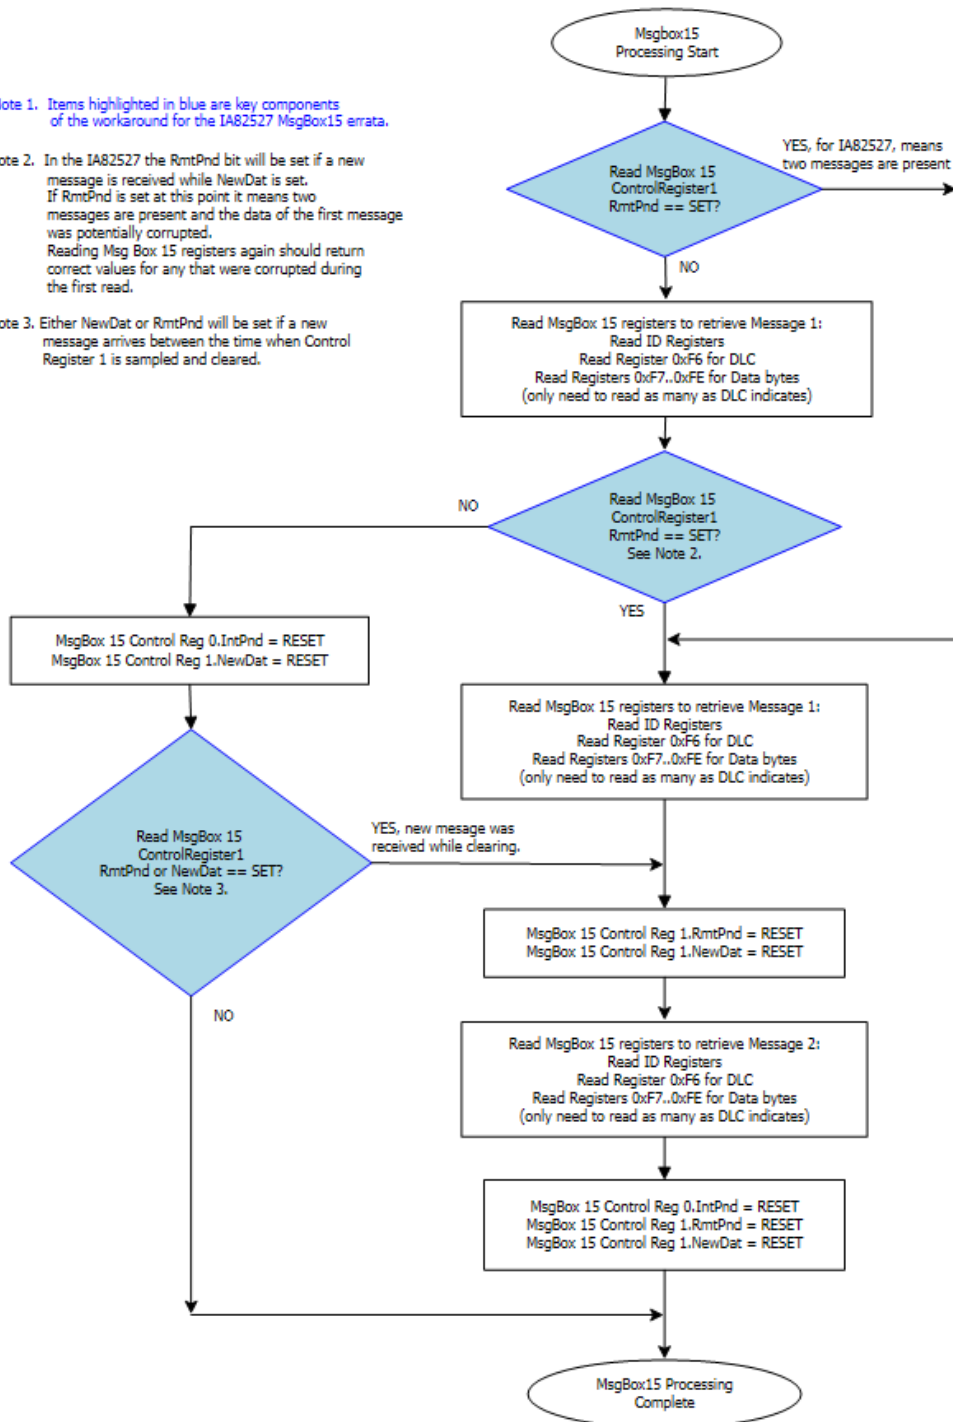

Figure 18. Flow chart of software workaround for errata number 6.1 and 6.2
**Workaround:** Because of the coupled nature of these errata, the workaround must address all facets together. Figure 18 provides the description of a software workaround that addresses errata 6.1 and 6.2.